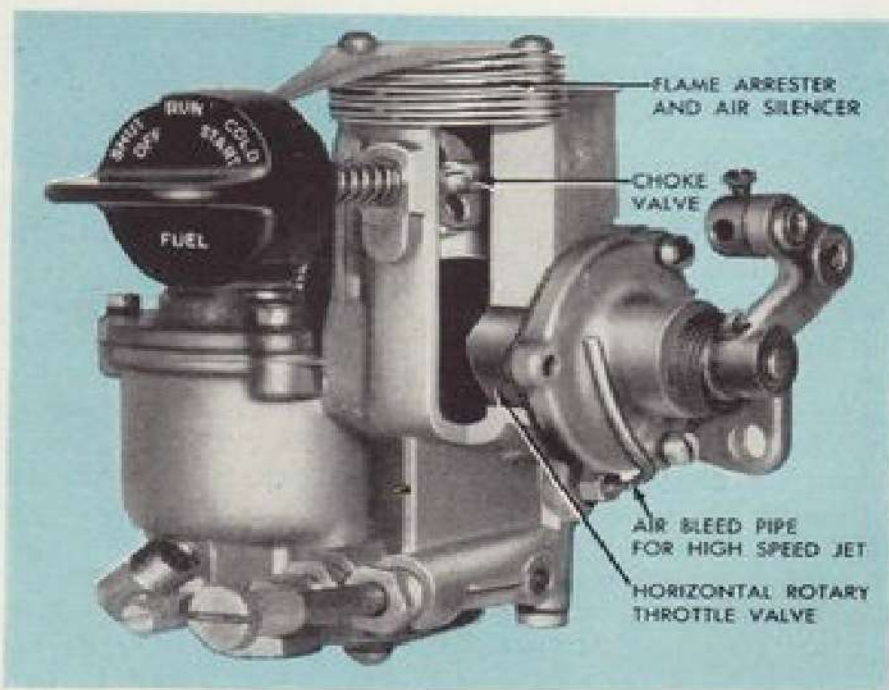
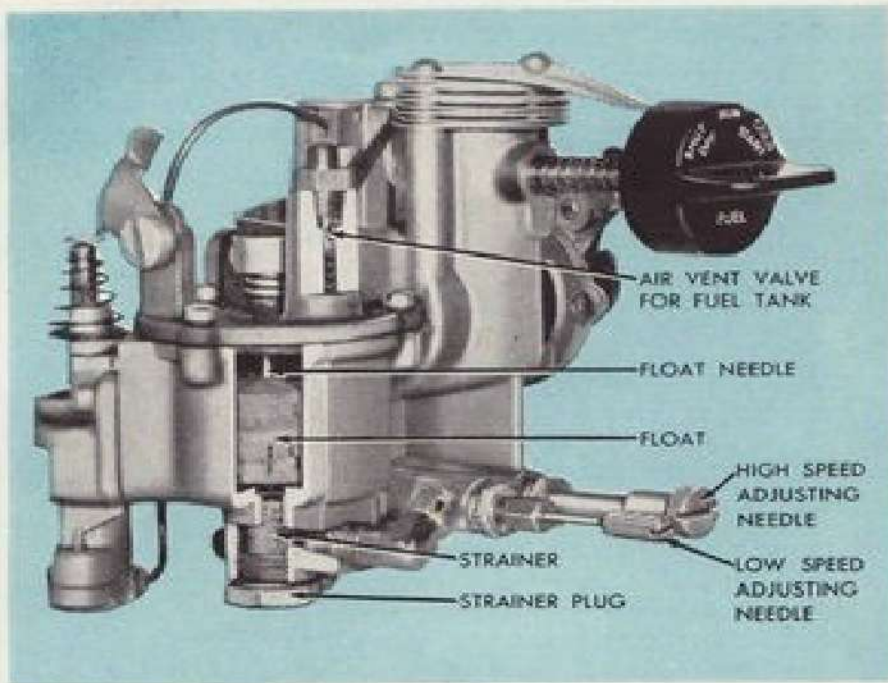
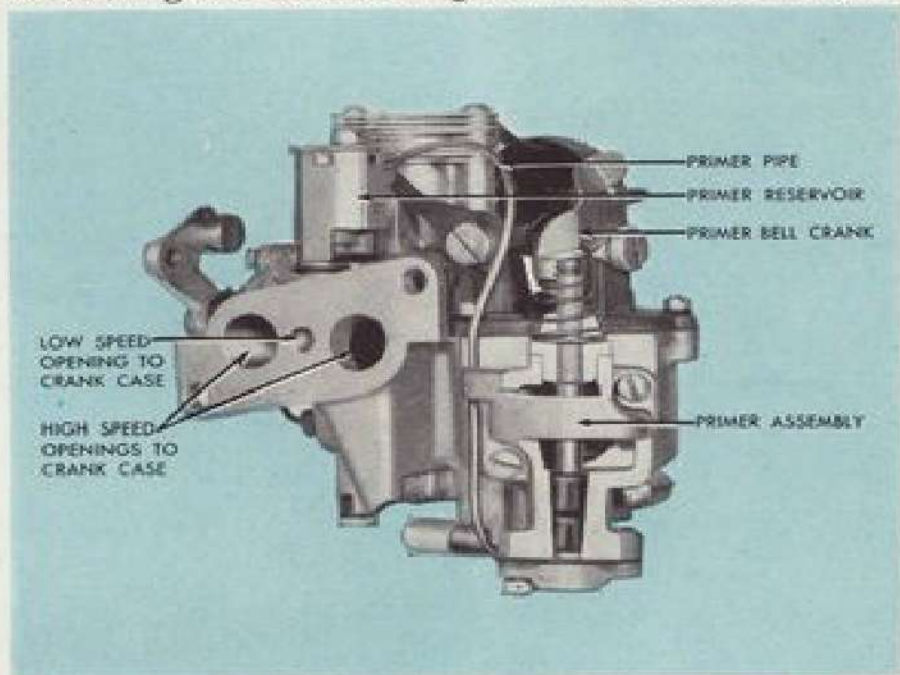

Fig. 4
Fig. 5
Fig. 6
**CARBURETOR** (See Figs. 4, 5, 6) The carburetor is commonly known as a floatfeed, throttle valve type. It is, however, actually as though two separate carburetors were combined into one.
At high speed carburetion is controlled by a horizontal rotary throttle valve (see Fig. 4). A single fuel jet supplies the fuel mixture to two openings or throats, one leading to the upper and one to the lower section of the crankcase, through the crankshaft rotary valve. A separate high speed adjusting needle regulates this mixture.
The low speed carburetion is entirely separated from the high speed. It is located in the center of carburetor (see Fig. 6) between the two large high speed openings. It has no throttle, but has a fixed small opening and jet for high velocity fuel mixture travel during low speed operation.
A choke valve located in the high speed air opening (see Fig. 4) is operated by the "FUEL DIAL" on motor hood. This is for use only when starting a cold motor.
The primer is attached to the float chamber of carburetor (see Fig. 6) and supplies the fuel to the reservoir for cold starting. For added convenience the air vent valve to the fuel tank is also attached to the top of the float bowl (see Fig. 5). This eliminates the need for a separate manual air vent.
The high speed air opening is covered by a "Flame Arrester" or air silencer (see Fig. 4). The low speed opening is covered by the primer reservoir (see Fig. 6) through which the motor is primed and which is also a silencer.
cumulated. Replace both needles carefully so as not to damage point or seat. Now remove strainer plug and strainer (see Fig. 5) at bottom of carburetor float bowl and clean the strainer screen. Before replacing screen and plug, open the FUEL SHUT-OFF VALVE for a moment, permitting the fuel to flush out the valve and fuel pipe.
Pressing the PRIMER BUTTON on front of motor hood moves a bell crank, which presses down the primer plunger (see Fig. 6). The plunger consists of a rod with a cup shaped rubber plunger attached to it. Another similar rubber which is stationary at the bottom of the primer cylinder acts as a check valve.
As the plunger is depressed, fuel is forced past the check valve through the small discharge tube, to the reservoir which covers the low speed carburetor opening, located at back of carburetor (Fig. 6). From the reservoir the fuel is then drawn into the crankcase for starting, through the low speed channel.
For operating ease this vent is operated from the FUEL DIAL on the motor hood. It consists of a small vent pipe fastened on the inside of the fuel tank. The top opening of this pipe is just inside the fuel filler cap opening. The other end is attached to a fitting at bottom of tank. An outside vent pipe runs from this fitting to a fitting on top of the carburetor float bowl, which contains a spring loaded inverted valve (see Fig. 5). This valve is opened or closed by the FUEL DIAL.
**FUEL DIAL** The Fuel Dial serves a triple purpose. When starting a cold motor, dial is turned to "COLD START". This closes a choke valve in the carburetor air intake (see Fig. 4) and enriches the mixture without the necessity of opening the carburetor HIGH SPEED ADJUSTING NEEDLE during the "warming up" period.
When motor is not in use, dial should be turned to "SHUT OFF" position. This shuts off the fuel at the carburetor float bowl, by raising and holding the float needle valve up into its seat; at the same time the AIR VENT to fuel tank is closed by the spring loaded inverted valve on top of carburetor float bowl (see Fig. 5.)